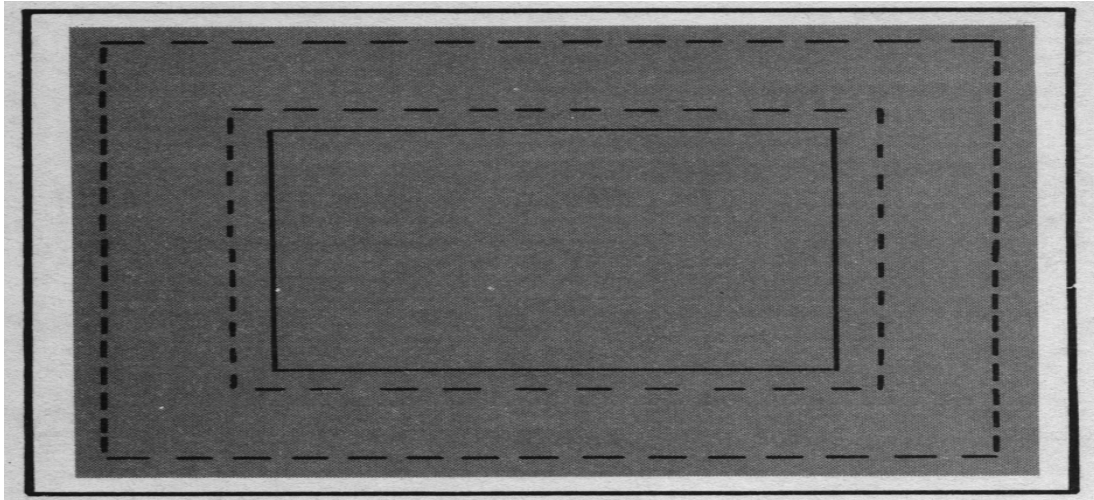

Figure 9-5. Felled canvas inverted patch
(2) Felled Canvas Inverted Patch. A felled canvas inverted patch (Figure 9-5) is sewn to the inside or the underside of canvas. To make this patch, follow the directions given in the previous paragraph, but center the patch faceup on the damaged area on the underside of the canvas, and secure it in place. Clip the corners on the topside of the canvas, fold the tabs under, and stitch them in place.